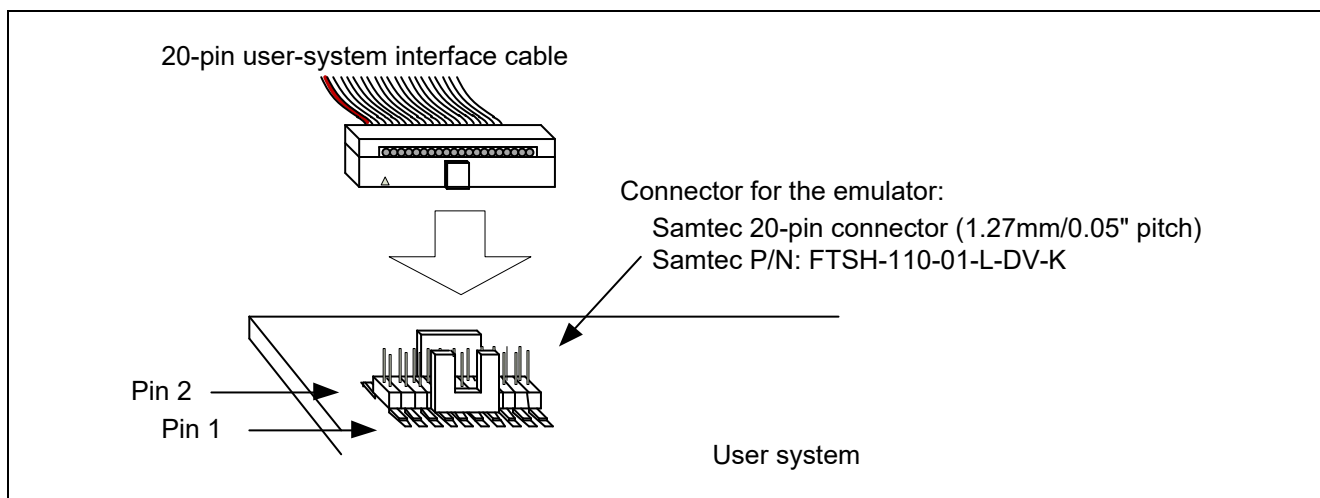

Figure 2.3 Connecting the User-System Interface Cable to the 20-Pin (1.27-mm Pitch) Connector on the User System
(3) For the pin assignments of the connector, refer to the supplementary manual for the E1/E20 emulator, E2 emulator, or E2 emulator Lite which corresponds to the target device.
- (4) Connect one end of the user-system interface cable to the E2 and the other end to the connector on the user system as shown in Figure 2.3 and Figure 2.4.